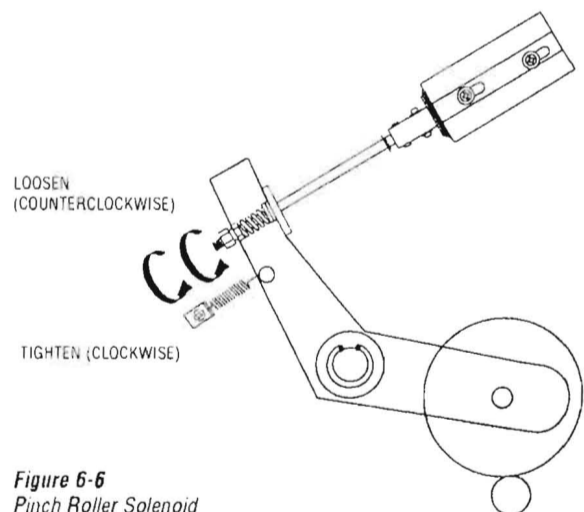

Figure 6-6
6. If a proper scale reading was not obtained in step 5, loosen the locknut and adjust the nut as shown in **Figure 6-6**. Turning the nut toward the spring increases pinch roller pressure. Tighten the locknut.
6. If a proper scale reading is not obtained in step 5, adjust the nut shown in Figure 6-6. Loosen the LOCK nut and Adjust the Adjustment Nut. Turning the Nut in the spring direction increases the pinch roller pressure. Tighten the Lock Nut after adjustment.